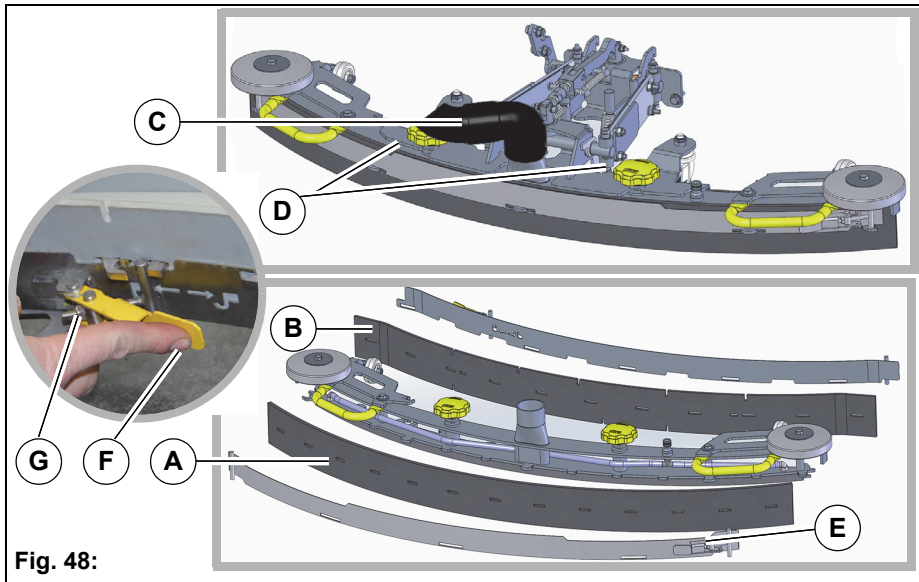

Fig. 48:
Check the sealing strip **Fig. 48-A** and the slot strip **Fig. 48-B** at the squeegee weekly for wear and damage. If the used sealing edge of the strip is worn or damaged, turn or replace the strip. Each strip can be used four times before it needs replacing.
1. Pull off the suction hose **Fig. 48-C**.
2. Loosen the star-shaped handles **Fig. 48-D** and remove the squeegee.
Release the tension strap **Fig. 48-E** and remove.
Fold over the turnbuckle **Fig. 48-F** all the way when releasing so that the tension strap is easier to remove.
The strips can be of different thickness. The turnbuckles must be readjusted if necessary **Fig. 48-G**.